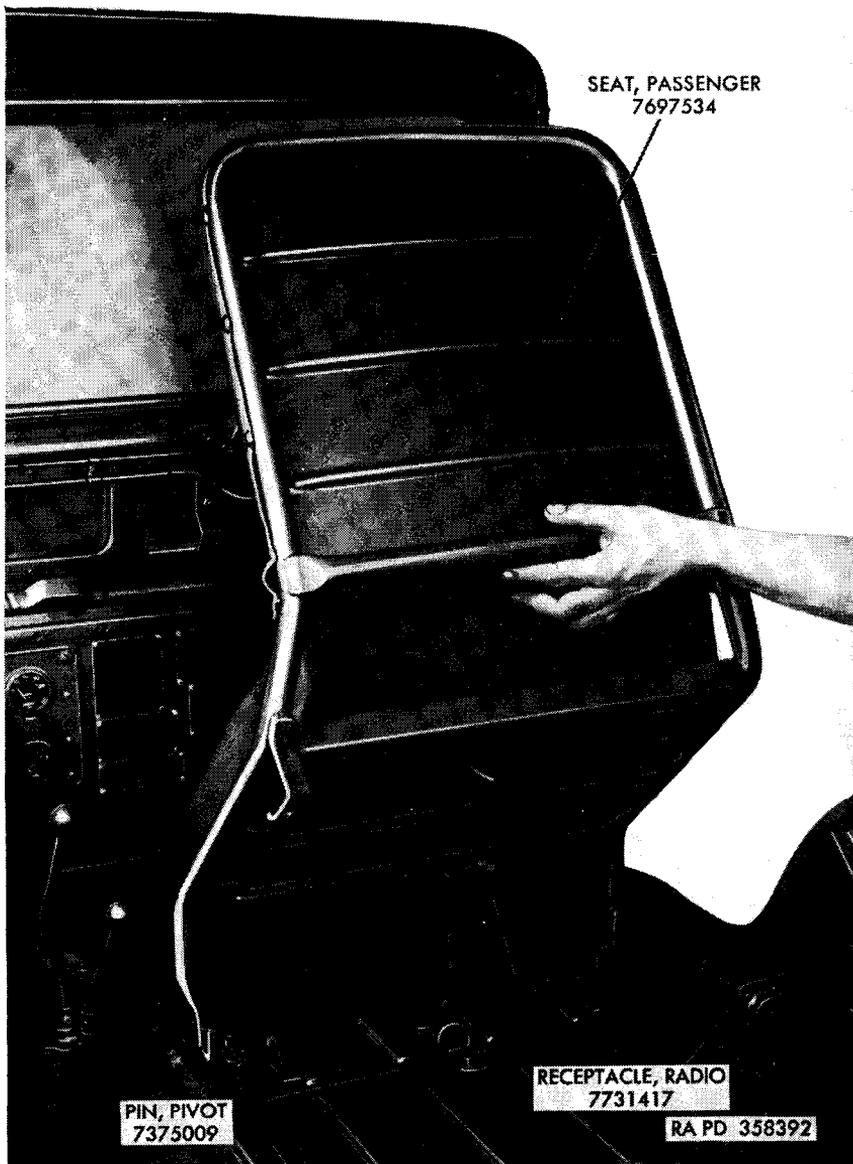

Figure 14. Removing passenger seat.
- (1) *Driver's seat.* Remove the four cap screws with internal-teeth lock washers, securing the driver's seat; remove seat from vehicle.
- (2) *Passenger seat* (fig. 14). Remove the two front seat pivot pins. Grasp passenger seat and pull forward until hinge pivot is free. Remove passenger seat from vehicle.